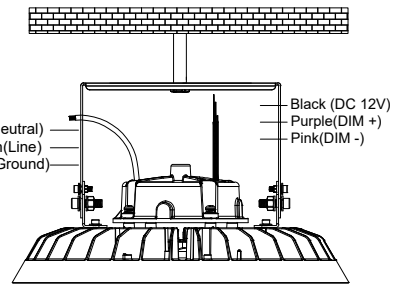

Figure 12
- ③ After installation, connect the wire of the fixture to the mains according to local wiring rules,ensure the connection is stable and make Good protection on connection.(Figure12)